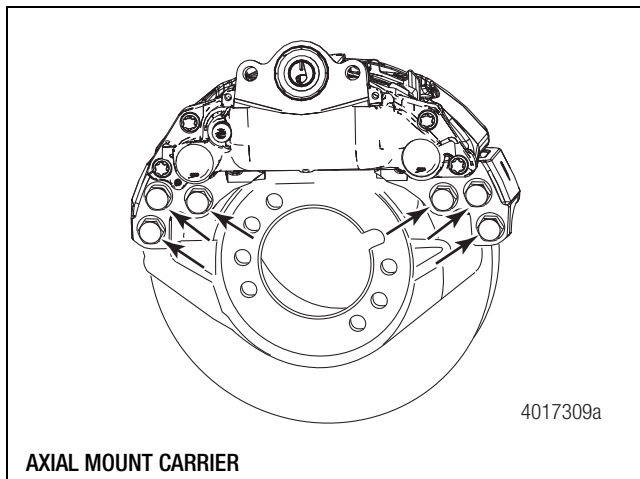
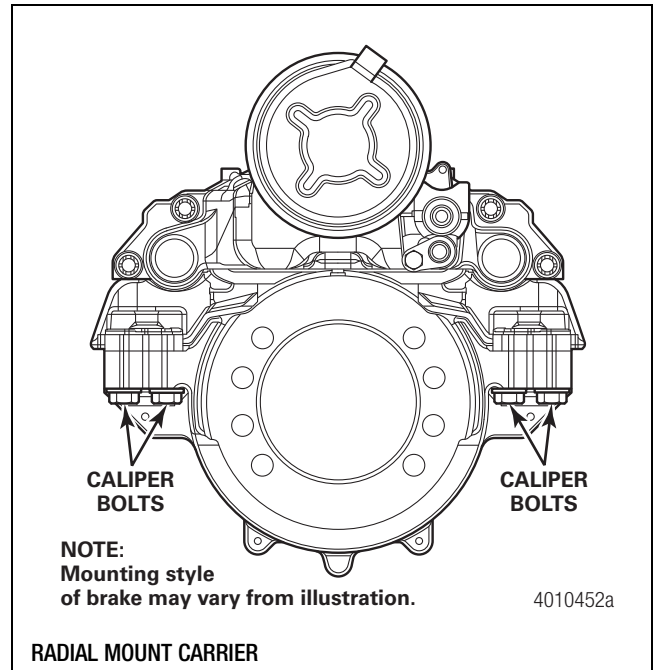

Figure 6.3
Figure 6.4
4. For both axial and radial mount carrier style brakes, use an appropriate size socket wrench (or if necessary, extension adapter MST225 5001 if available) to remove the carrier bolts and washers. Refer to Section 12, Figure 6.3 and Figure 6.4. Carefully remove the caliper assembly from the axle.